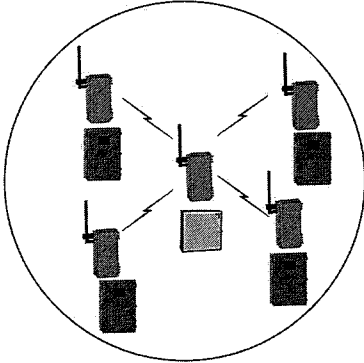

Figure 13: Placing RLINKs Using an Omni-Directional Antenna
- When using an omni-direction antenna, place the RLINKs and controllers anywhere, 360 degrees around the central RLINK (Figure 13).